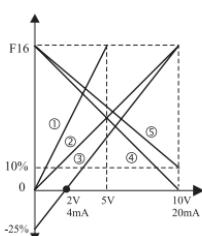

Figure 3
* Please refer to Figure 3 and see the description of parameters along different curves in the table below :
- ② In Figure 3, F63 set value is 3 for the display of output voltage, F65 set value is 2200, reference standard point is 220V, and the analog output signal AO is DC+10V.